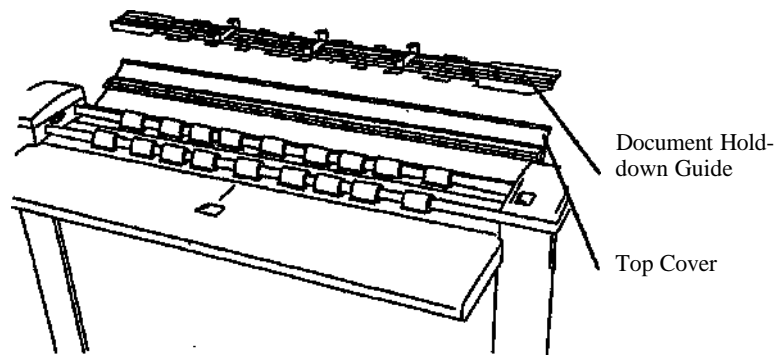

Figure 1. Removing the Document Hold-down Guide
10. (Figure 1): Install the Document Hold-down Guide.
2. (Figure 1): Open the Top Cover and remove the Document Hold-down Guide.